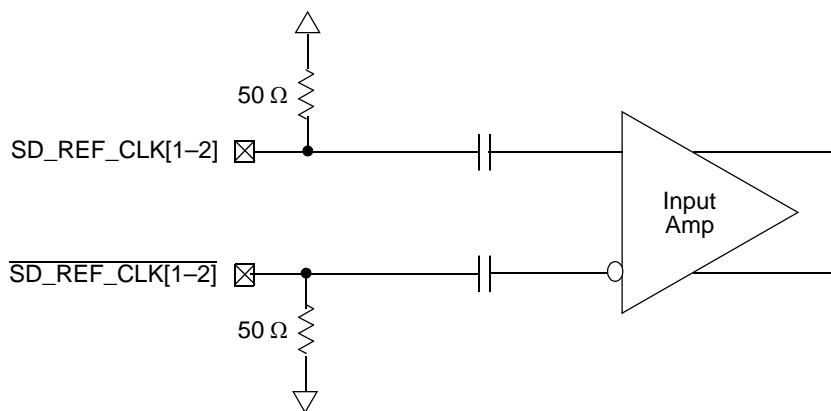

Figure 4. Receiver of SerDes Reference Clocks
The SerDes reference clock inputs are applied to an internal PLL whose output creates the clock used by the corresponding SerDes lanes. The SerDes reference clock inputs are SD_REF_CLK1/ $\overline{SD_REF_CLK1}$ or SD_REF_CLK2/ $\overline{SD_REF_CLK2}$. Figure 4 shows a receiver reference diagram of the SerDes reference clocks.
- The SD_REF_CLK[1-2] and $\overline{SD_REF_CLK[1-2]}$ are internally AC-coupled differential inputs as shown in Figure 4. Each differential clock input (SD_REF_CLK[1-2] or $\overline{SD_REF_CLK[1-2]}$) has on-chip 50-Ω termination to SXC_{VSS} followed by on-chip AC-coupling.